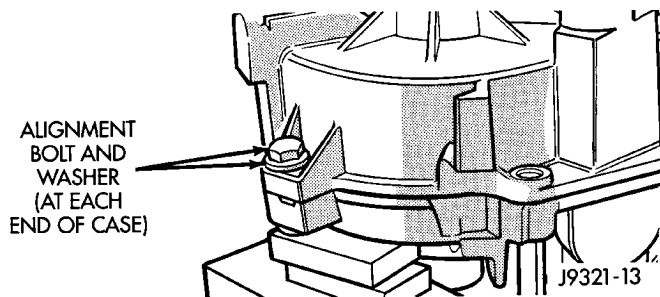

Fig. 71 Alignment Bolt Location
(12) Install case attaching bolts. Alignment bolts at each end of case are only ones requiring washers (Fig. 71).
(13) Tighten case bolts to 27-34 N·m (20-25 ft. lbs.) torque.